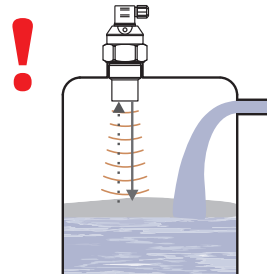

Fig. 5: Thick foam on the surface
- g) Foam on the level absorbs the acoustic wave reflection which might cause **malfunction** of the level meter. For mounting find the location where the foaming is as low as possible (Fig. 5).